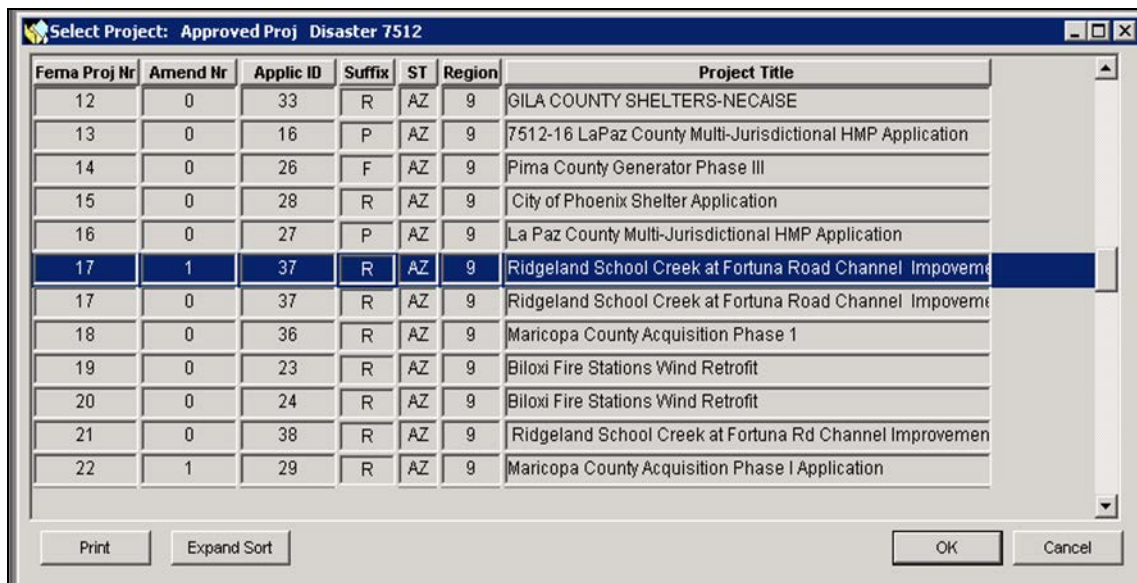

Figure 11-11: Select Project List
2. The Select Project List is displayed (Figure 11-11).